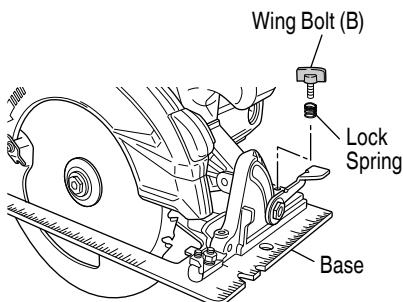

Fig. 10
3. Regulating the guide (Rip fence) (Fig. 10, 11)Optional Accessory